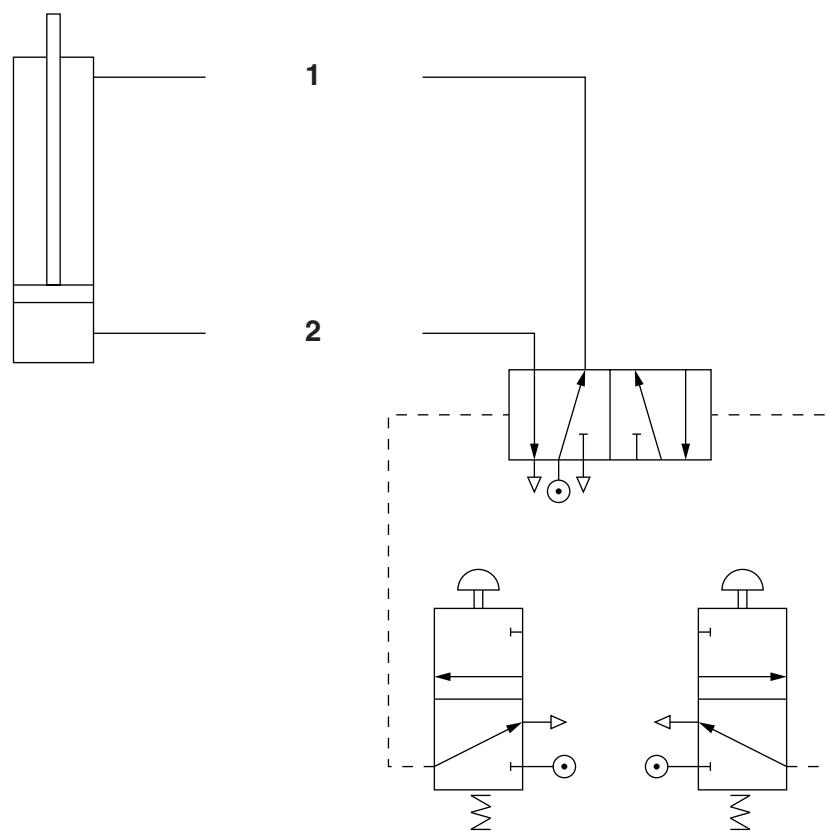
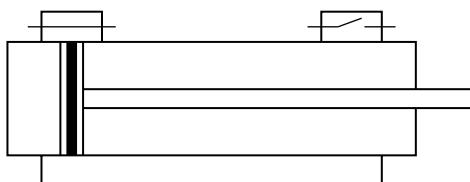

Fig. 4
Fig. 5
- 18 Fig. 4 shows a test circuit to control the cylinders on the 'rodeo bull'. To comply with health and safety requirements, it must be possible to control the instroke and outstroke speed of the cylinders.
- (a) (i) Name the component that should be inserted at positions **1** and **2** on Fig. 4.
- (b) Fig. 5 shows a reed switch cylinder used at the development stage of the circuit shown in Fig. 4.